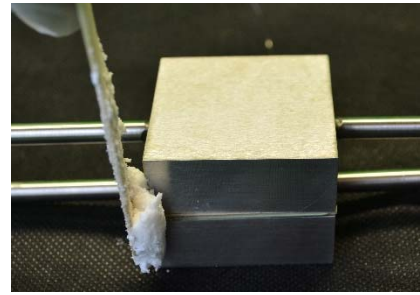

Figure 19
12. Place the cathode manifold on top of the cell assembly. Apply the high temperature sealing paste around the perimeter of the cell and manifold. Allow the paste to cure at room temperature, or cure in-situ within the test furnace. This paste will seal the porosity of the anode cell and help form and gas tight seal. (Figure 19).